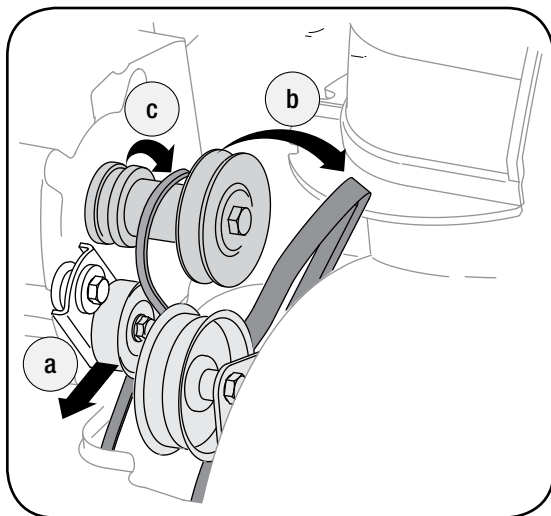

Figure 6-11
3. a. Grasp the idler pulley and pivot it toward the right, Figure 6-11.